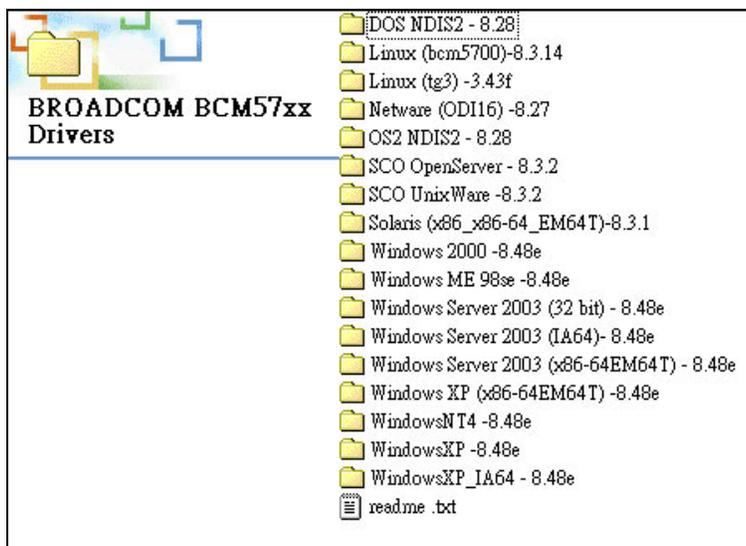

Figure 6-26: Location Browsing Window
Step 2: A new window appears showing the folder contents on the CD for the IDE driver. Navigate to the **Audio\AC97\Windows** (or other appropriate OS) sub-folder to view the folder contents on the CD for the audio driver (**Figure 6-26**).
Step 8: Select the proper OS folder under the “X:\5-LANBROADCOM BCM57xx Drivers” directory (Figure 6-26) in the location browsing window, where “X:” is the system CD drive.